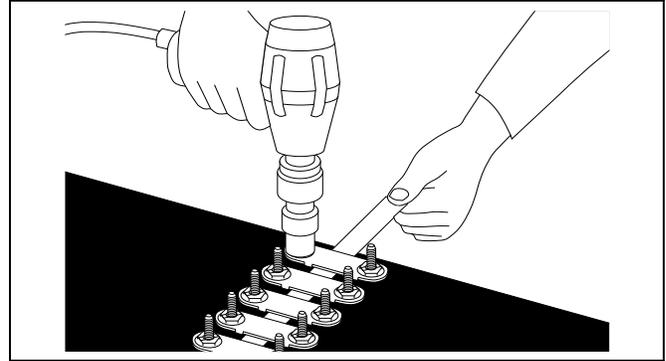

Figure 4L
- Pull tape tight and hold in position by tightening a fastener at each end of the splice. Then snug down all other plates. (See Figure 4L.)